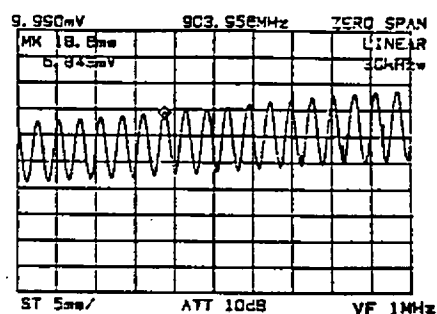

Figure 5-6 Reading the Difference from the Time Indication of the Adjacent Peak
- ⑬ Move the marker to the next peak and obtain the difference $T(s)$ between the time indication of that marker and the time indication in step ⑫. In this example, it can be obtained as $18.6 - 16.0 = 2.6 (ms)$ (Figure 5-6).